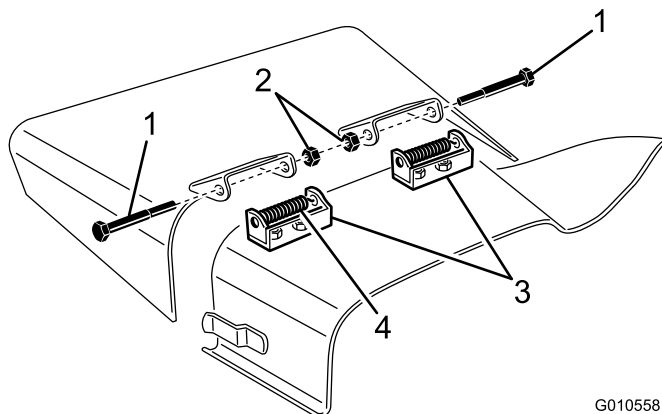

Figure 29
4. Remove the 2 capscrews, locknuts, and springs that secure the deflector mounts to the pivot brackets (Figure 29).
5. To remove the pivot brackets, remove the carriage bolts and nuts (Figure 29).